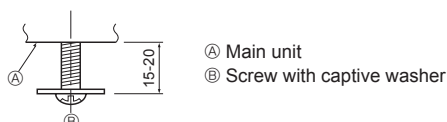
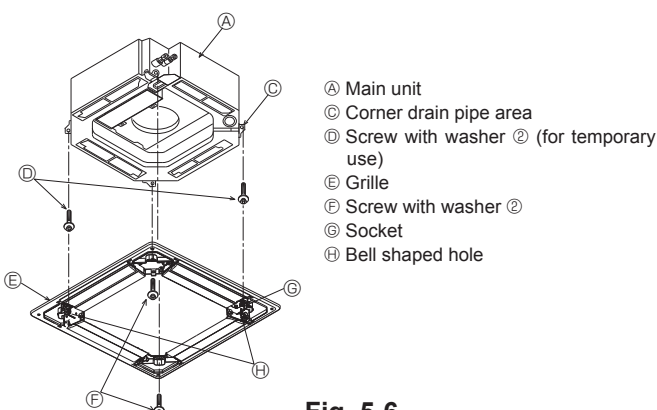
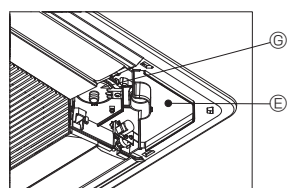

Fig. 5-5
Fig. 5-6
Fig. 5-7
5.4.1. Preparations (Fig. 5-5)
- Install the 2 enclosed screws with washer ② in the main unit (at the corner drain pipe area and at the opposite corner) as shown in the diagram.
5.4.2. Temporary installation of the grille (Fig. 5-6)
- Temporarily secure the grille using the bell shaped holes by putting the socket of the grille marked ⑥ on the corner drain pipe area of the main unit.
5.4.3. Securing the grille (Fig. 5-7)